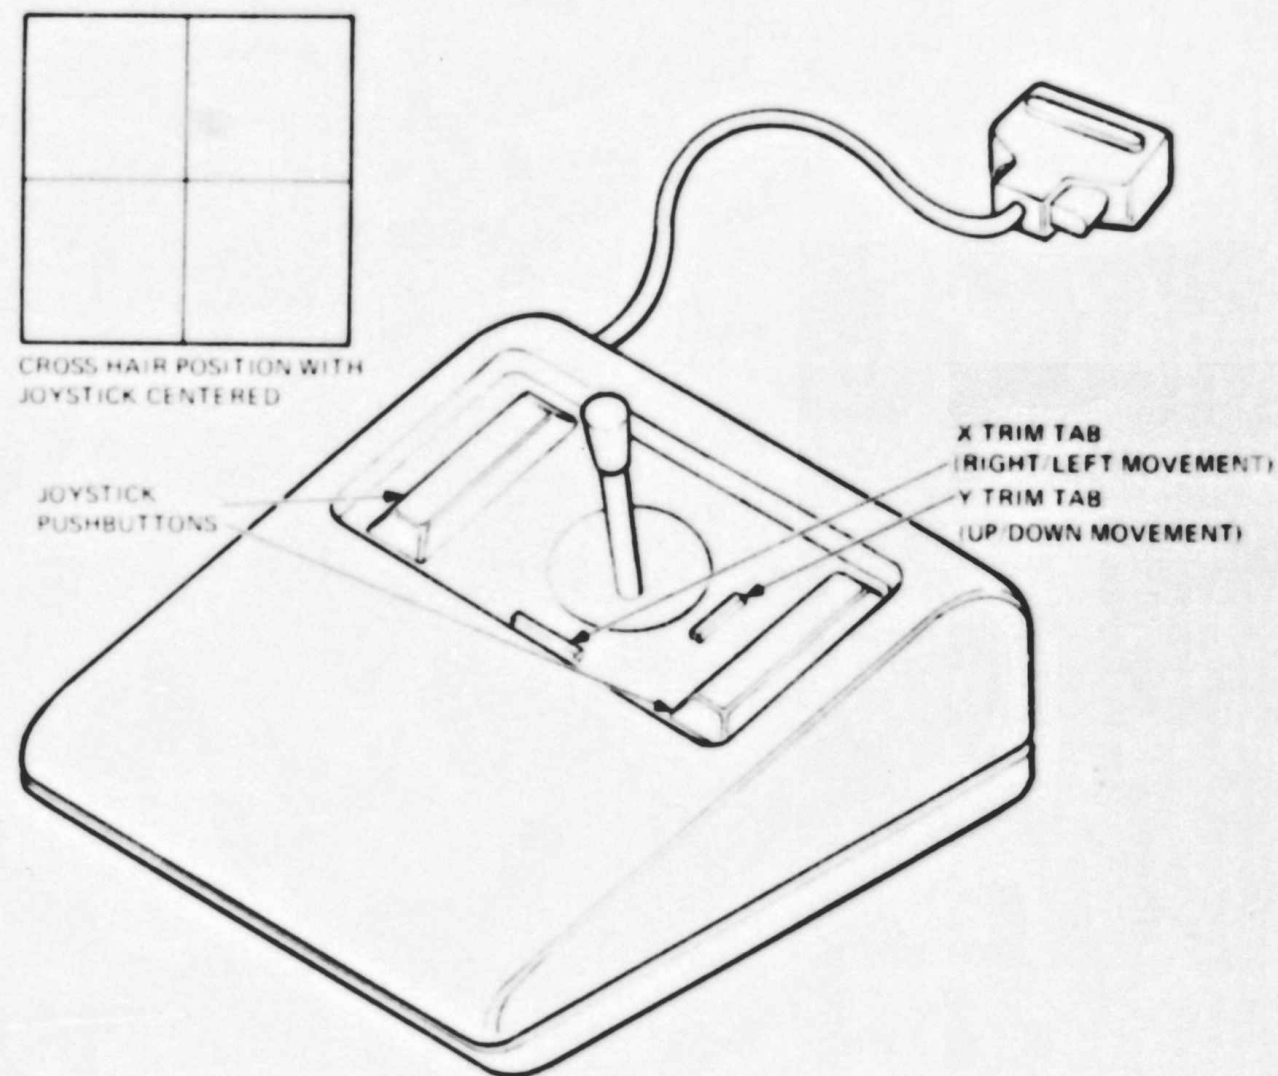

Figure 6-5 Joystick Adjustment
4. With the joystick in its centered position, the cross hairs will be approximately centered in the box. Adjust the X trim tab to move the vertical line to the right or left, adjust the Y trim tab to move the horizontal line up or down. See Figure 6-5. (Because of a hardware offset, the vertical cross hair cannot reach the right side of the box and exceeds the left side by the same amount.)